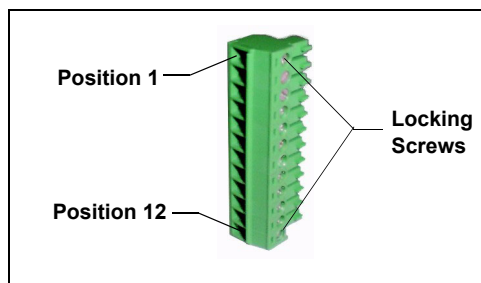

Figure 43. 12-Position Connector Plug
6. Locate the 12-position connector plug (P/N 923686) in the ICS-1000 Ship Kit (P/N 057905) (see Figure 43).